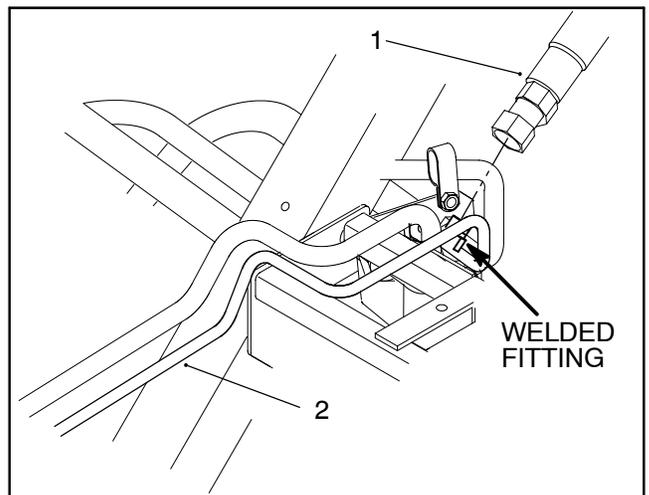

Figure 86
3. Disconnect hose assembly from the hydraulic fitting welded to the reel motor case drain tube located below the right side of the frame. Allow hose to drain to a suitable container (Fig. 86).
4. Disconnect return hose (21) from hydraulic barb fitting (9). Allow hose to drain to a suitable container.
7. Connect hose assembly to the hydraulic fitting welded to the reel motor case drain tube located below the right side of the frame (Fig. 86).